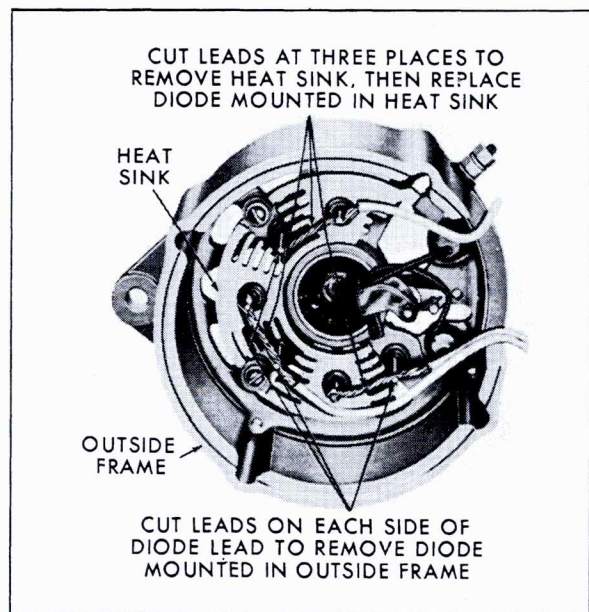

Fig. 6-43 Replacing Defective Diodes
- d. Cut diode leads in three places as shown in Fig. 6-43 and remove heat sink from end frame.
4. If it is necessary to replace a diode mounted in the end frame, use diagonal cutters to clip the flexible leads on each side of the diode lead. Clip the flexible leads as close to the diode lead as possible, Fig. 6-43.
8. If it is necessary to replace a diode mounted in the heat sink, it will be necessary to remove the heat sink from the end frame. This is accomplished by clipping with diagonal cutters the flexible lead as close to the defective diode lead as possible. Also clip the flexible leads midway between the other two pairs of diodes, Fig. 6-43. Then remove the "BAT" terminal and heat sink attaching screws, and the long leads from the nylon connector. For easy removal of the defective diode, it is recommended that the diode and heat sink be heated in an oven to 150°F., or briefly submerged in hot water just below the boiling point.